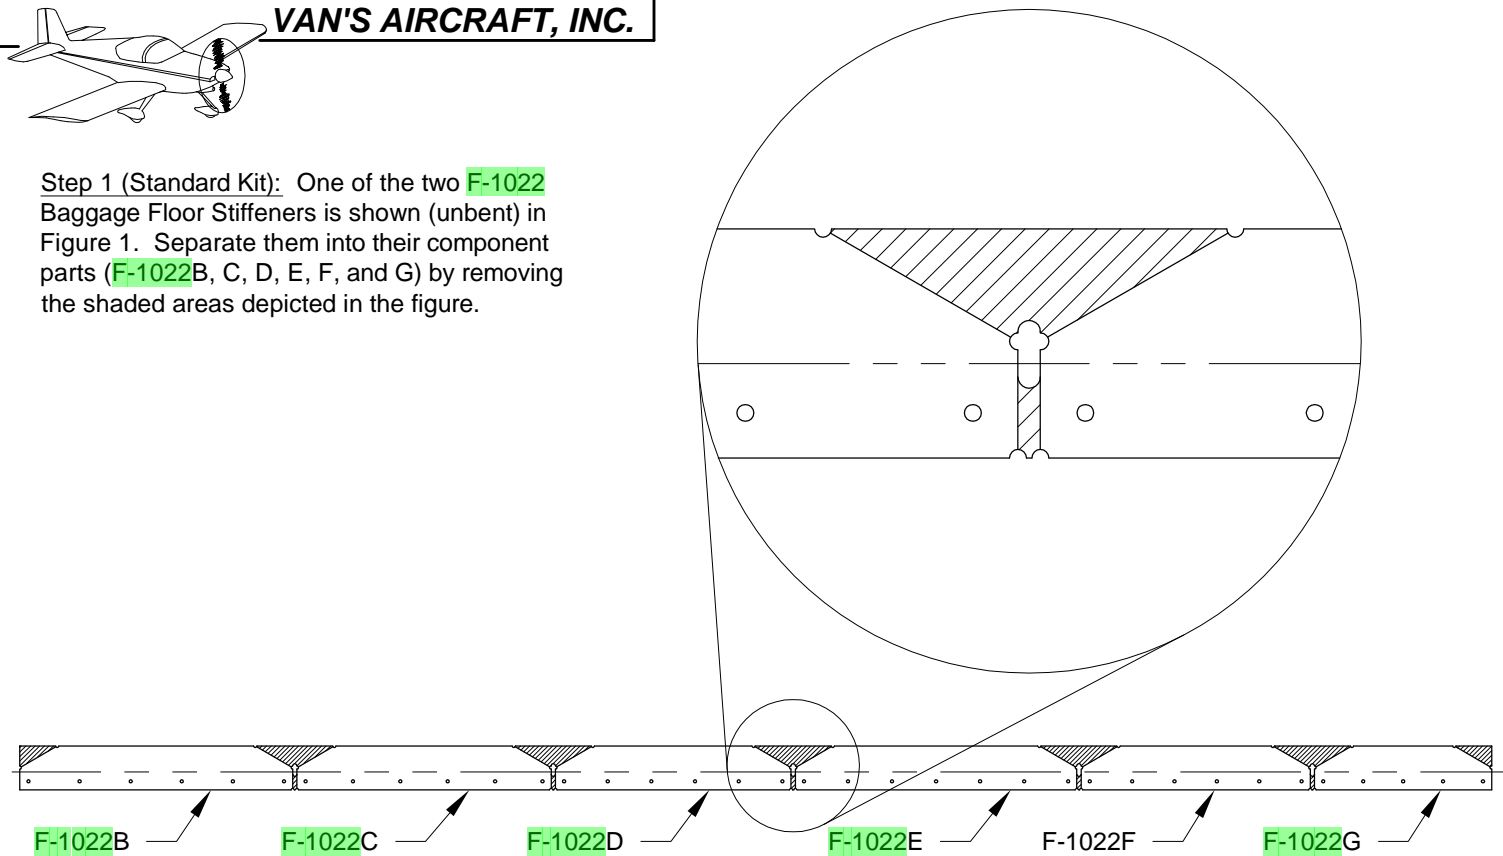

FIGURE 1: SEPARATING THE F-1022 BAGGAGE FLOOR STIFFENERS
Step 1 (Standard Kit): One of the two F-1022 Baggage Floor Stiffeners is shown (unbent) in Figure 1. Separate them into their component parts (F-1022B, C, D, E, F, and G) by removing the shaded areas depicted in the figure.